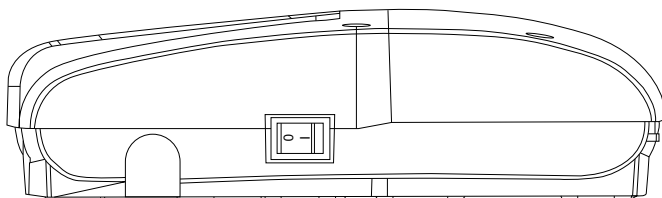
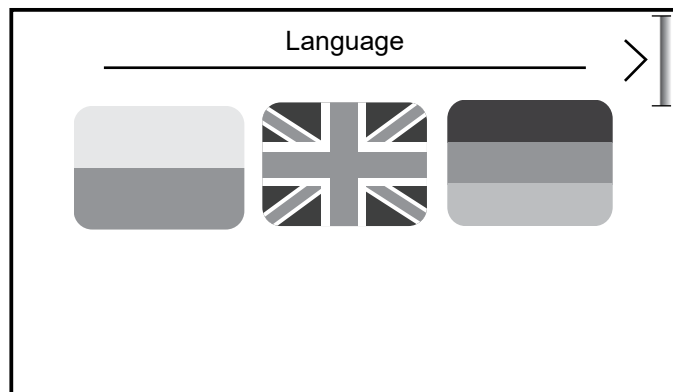

Figure 5-1: Power switch
Figure 6-1: Language selection
1. Turn on the Grant Aerona Smart controller via the wiring centre power switch (Refer to Figure 5-1) and allow the software to cycle to the language selection panel. (Refer to Figure 6-1).